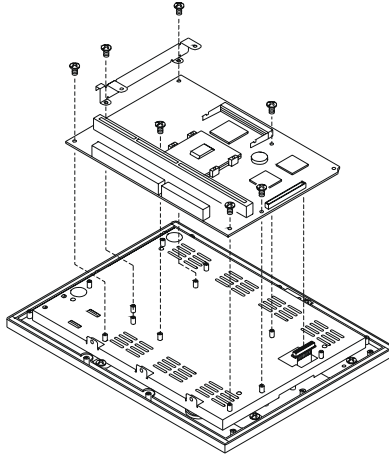

Figure 2.12: Installing/removing the PCM-9573
3. Install the PCM-9573 in the panel and screw in the four screws (see Figure 2-12).